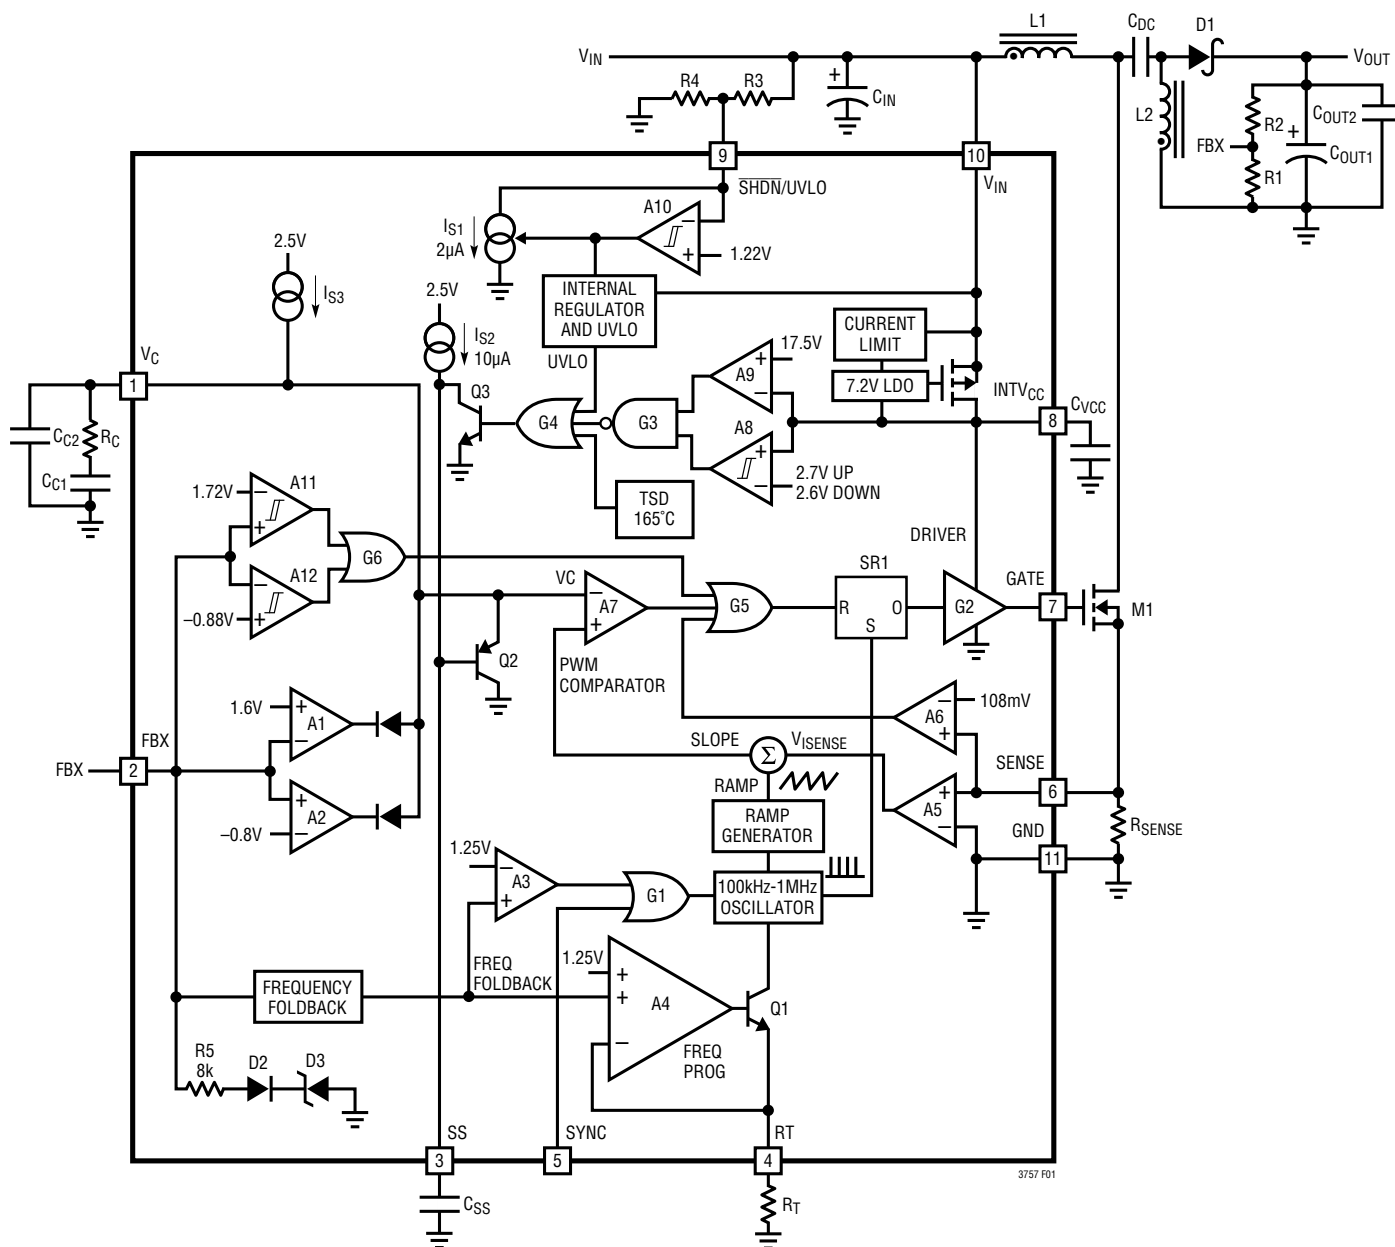

Figure 1. LT3757 Block Diagram Working as a SEPIC Converter
The LT3757 uses a fixed frequency, current mode control scheme to provide excellent line and load regulation. Operation can be best understood by referring to the Block Diagram in Figure 1.
The LT3757 is capable of generating either positive or negative output voltage with a single FBX pin. It can be configured as a boost, flyback or SEPIC converter to generate positive output voltage, or as an inverting converter to generate negative output voltage. When configured as a SEPIC converter, as shown in Figure 1, the FBX pin is pulled up to the internal bias voltage of 1.6V by a voltage divider ( $R1$  and  $R2$ ) connected from  $V_{OUT}$  to GND. Comparator A2 becomes inactive and comparator A1 performs the inverting amplification from FBX to  $V_C$ . When the LT3757 is in an inverting configuration, the FBX pin is pulled down to -0.8V by a voltage divider connected from  $V_{OUT}$  to GND. Comparator A1 becomes inactive and comparator A2 performs the noninverting amplification from FBX to  $V_C$ .
The purpose of this current is to allow the user to program the rising hysteresis. The Block Diagram of the comparator and the external resistors is shown in Figure 1. The typical falling threshold voltage and rising threshold voltage can be calculated by the following equations:
An internal, low dropout (LDO) voltage regulator produces the 7.2V INTVCC supply which powers the gate driver, as shown in Figure 1. If a low input voltage operation is expected (e.g., supplying power from a lithium-ion battery or a 3.3V logic supply), low threshold MOSFETs should be used. The LT3757 contains an undervoltage lockout comparator A8 and an overvoltage lockout comparator A9 for the INTVCC supply. The INTVCC undervoltage (UV) threshold is 2.7V (typical), with 100mV hysteresis, to ensure that the MOSFETs have sufficient gate drive voltage before turning on. The logic circuitry within the LT3757 is also powered from the internal INTVCC supply.
The choice of operating frequency may be determined by on-chip power dissipation, otherwise it is a trade-off between efficiency and component size. Low frequency operation improves efficiency by reducing gate drive current and MOSFET and diode switching losses. However, lower frequency operation requires a physically larger inductor. Switching frequency also has implications for loop compensation. The LT3757 uses a constant-frequency architecture that can be programmed over a 100kHz to 1000kHz range with a single external resistor from the  $RT$  pin to ground, as shown in Figure 1. The  $RT$  pin must have an external resistor to GND for proper operation of the LT3757. A table for selecting the value of  $R_T$  for a given operating frequency is shown in Table 1.
The output voltage ( $V_{OUT}$ ) is set by a resistor divider, as shown in Figure 1. The positive and negative  $V_{OUT}$  are set by the following equations:
In the applications where  $V_{OUT}$  is pulled up by an external positive power supply, the FBX pin is also pulled up through the R2 and R1 network. Make sure the FBX does not exceed its absolute maximum rating (6V). The R5, D2, and D3 in Figure 1 provide a resistive clamp in the positive direction. To ensure FBX is lower than 6V, choose sufficiently large R1 and R2 to meet the following condition:
The LT3757 addresses this mechanism with the SS pin. As shown in Figure 1, the SS pin reduces the power MOSFET current by pulling down the  $V_C$  pin through Q2. In this way the SS allows the output capacitor to charge gradually toward its final value while limiting the start-up peak currents. The typical start-up waveforms are shown in the Typical Performance Characteristics section. The inductor current  $I_L$  slewing rate is limited by the soft-start function.
The optimum values depend on the converter topology, the component values and the operating conditions (including the input voltage, load current, etc.). To compensate the feedback loop of the LT3757/LT3757A, a series resistor-capacitor network is usually connected from the  $V_C$  pin to GND. Figure 1 shows the typical  $V_C$  compensation network. For most applications, the capacitor should be in the range of 470pF to 22nF, and the resistor should be in the range of 5k to 50k. A small capacitor is often connected in parallel with the RC compensation network to attenuate the  $V_C$  voltage ripple induced from the output voltage ripple through the internal error amplifier. The parallel capacitor usually ranges in value from 10pF to 100pF. A practical approach to design the compensation network is to start with one of the circuits in this data sheet that is similar to your application, and tune the compensation network to optimize the performance. Stability should then be checked across all operating conditions, including load current, input voltage and temperature.